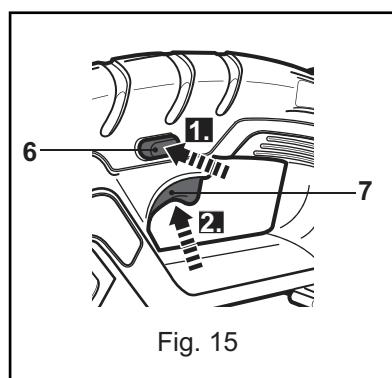

Fig. 15
## SWITCHING ON/OFF (Fig. 15)
- Press the lock-off button (6) to either side and hold it in position.
- Press the on/off switch (7) to switch the product on (Fig. 15).
- Release the on/off switch (7) to switch the product off. (Fig. 15).
## Speed Control (Fig. 15).